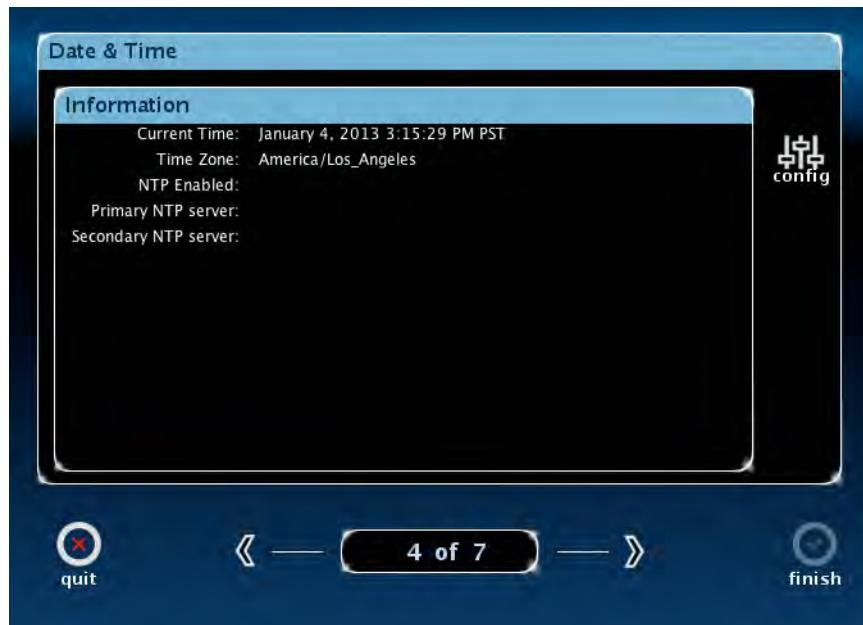

Figure 2-13 Date and Time Information Screen
The **Date & Time Information** screen is displayed, as shown in Figure 2-13. This screen displays the current date and time settings.
17. Enter the desired NTP servers using the displayed keypad, and press **sync time**. Your NTP settings are displayed in the **Date and Time Information** screen (shown in Figure 2-13).